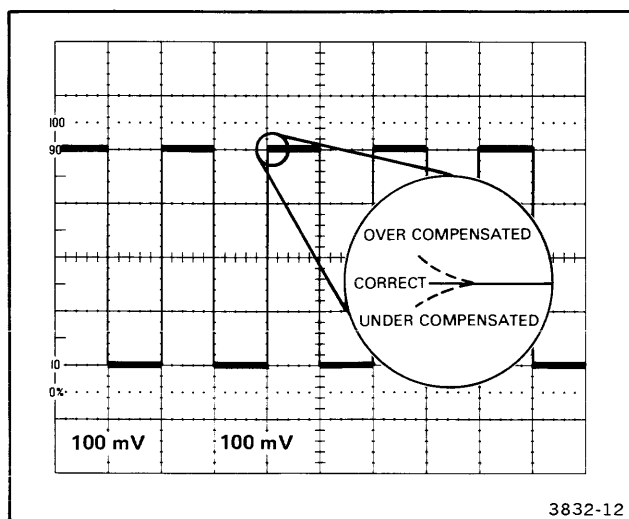

Figure 2-10. Probe low-frequency compensation.
5. Check the waveform for overshoot and rolloff (see Figure 2-10). If necessary, use a small-bladed screwdriver to adjust the probe low-frequency compensation for a square front corner on the waveform.